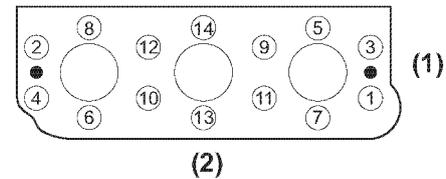

Figure 5-41
- Loosen the cylinder head bolts in two steps in the illustrated order (**Figure 5-41**) and (**Figure 5-42**).